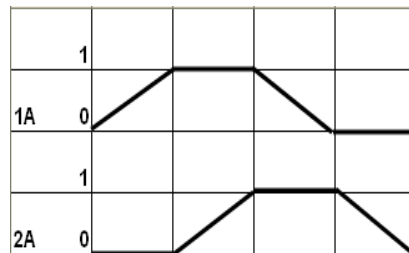

Fig2
(2) Two cylinders are used to transfer parts from a magazine onto a chute. When a push button is pressed, the first cylinder extends, pushing the part from the magazine and positions it in preparation for transfer by the second cylinder onto the out feed chute. Once part is transferred, the first cylinder retracts, followed by the second. Design Pneumatic circuit by CASCADE method. Refer Fig 2. for Displacement-step diagram. **04**